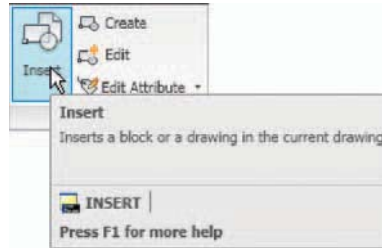
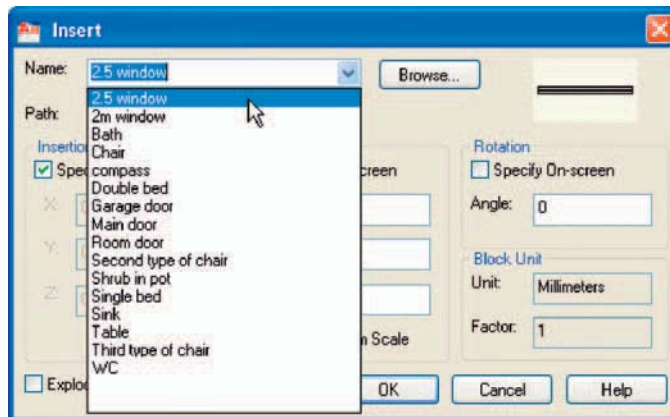

Fig. 9.6 The **Insert** tool icon in the **Home/Block** panel
Fig. 9.7 The **Insert** dialog with its **Name** pop-up list displaying the names of all blocks in the drawing
1. *Left-click* the **Insert** tool icon in the **Home/Block** panel (Fig. 9.6) or the **Insert Block** tool in the **Draw** toolbar. The **Insert** dialog appears on screen (Fig. 9.7). From the **Name** pop-up list select the name of the block which is to be inserted, in this example the **2.5 window**.